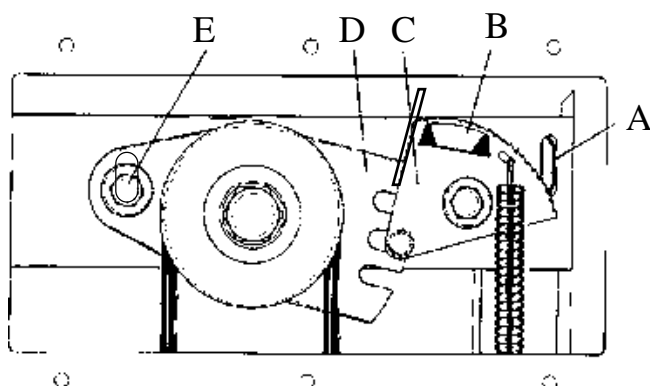

Figure 6.11 Auto-Belt tensioner
The continuous drive belt is kept under constant tension by the Auto belt tensioner. This is set up initially at the factory and should not need attention unless the drive belt has stretched past its serviceable life, indicated when the spring finger (A) is engaged in the red area on the rack assembly (B). Figure 6.11.
2. Place the peg on the rack assembly (C) into the middle slot of the cam plate assembly (D). Figure 6.11.
3. Draw the spring back into position using a piece of wire and hook into the spring plate. Check that the spring finger (A) engages in the first couple of teeth on the rack assembly (C). Figure 6.11.
5. Loosen the pivot bolt (E) and slide the cam plate assembly (D) forwards. Figure 6.11.
6. Tighten the pivot bolt (E) figure 6.11 and repeat step 3.
After a period of time the drive belt will stretch past the limit of the auto belt tensioner. The auto belt tensioner can be reset to allow for this stretching by following the steps 4 to 6 section 6.19. Re-grease the bearing area under the cam plate and pivot (E) when fitting a new drive belt. Figure 6.11.